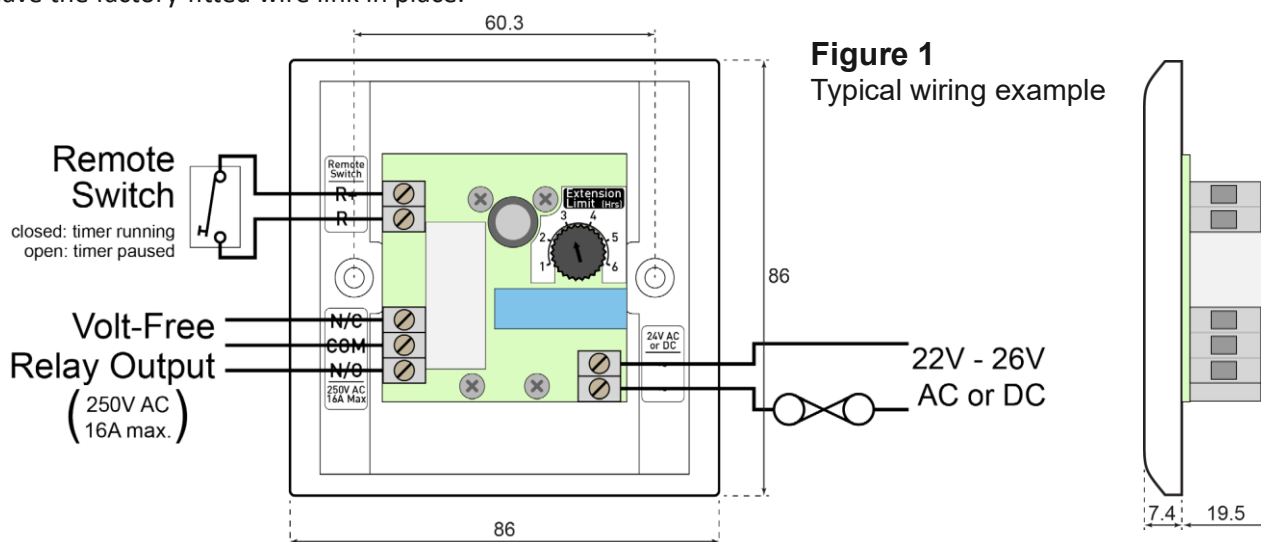

Figure 1
3. Connect the wiring to the terminal blocks on the extension timer as shown in Figure 1 (or any suitably appropriate form). Make sure to choose the correct output terminals that are suitable to your application.